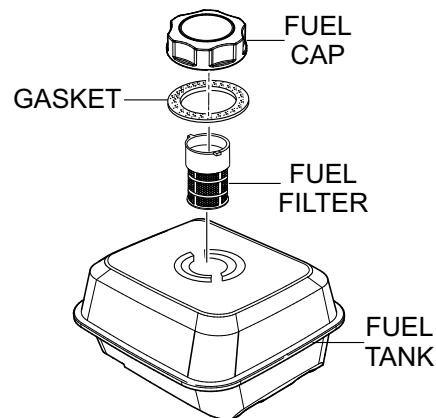

Figure 34. Fuel Strainer
- Next, remove, inspect and clean the fuel filter (Figure 34) with solvent.